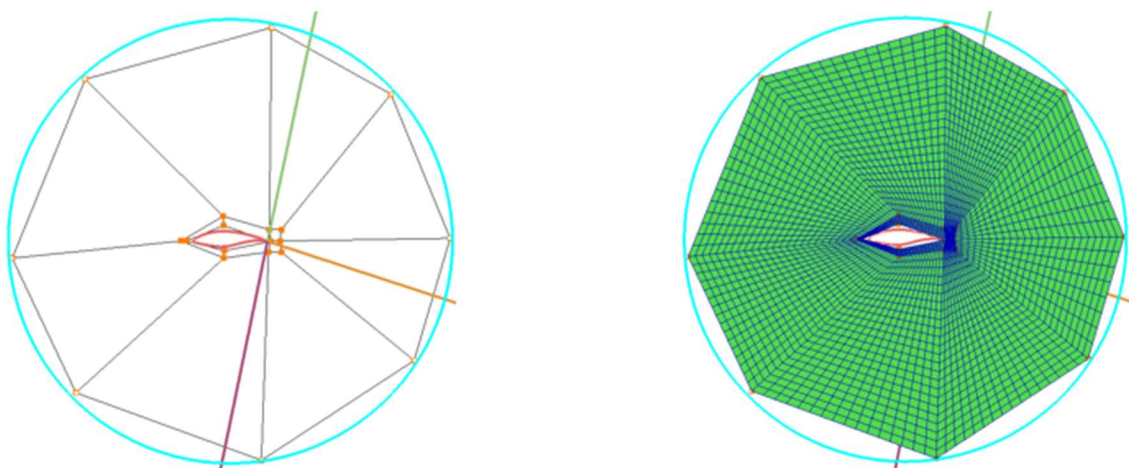

Figure 5.23: Topology and Grid Preview
**Preview** button  helps in visualizing the grid on a group of faces without running the gridding process. It is located at the global dock next to the Error button. Switching it ON will display all the active faces as grid sheets based on the edge densities. Note that this is just a visualization of the block faces as a grid sheet, and no smoothing algorithm is applied. Hence, the grid visualization would be rigid, as shown in Figure 5.23 and not curvy or smooth. It also gives instant feedback by updating the visual if the density is modified on the active edges or repositioning any active corner.